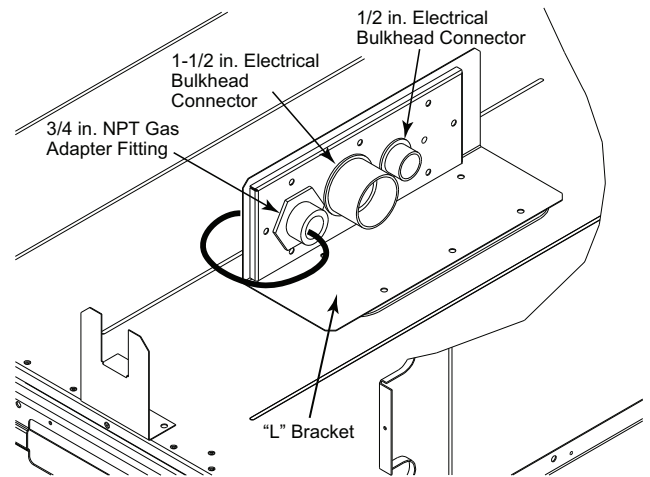

Fig. 16 — Thru-Base Connection Fittings
This service connection kit consists of a 3/4-in. NPT gas adapter fitting (stainless steel), a 1/2-in. electrical bulkhead connector and a 1-1/2-in. electrical bulkhead connector, connected to an "L" bracket covering the embossed (raised) section of the unit basepan in the condenser section. See Fig. 16.
1. Remove the "L" bracket assembly from the unit (see Fig. 16).